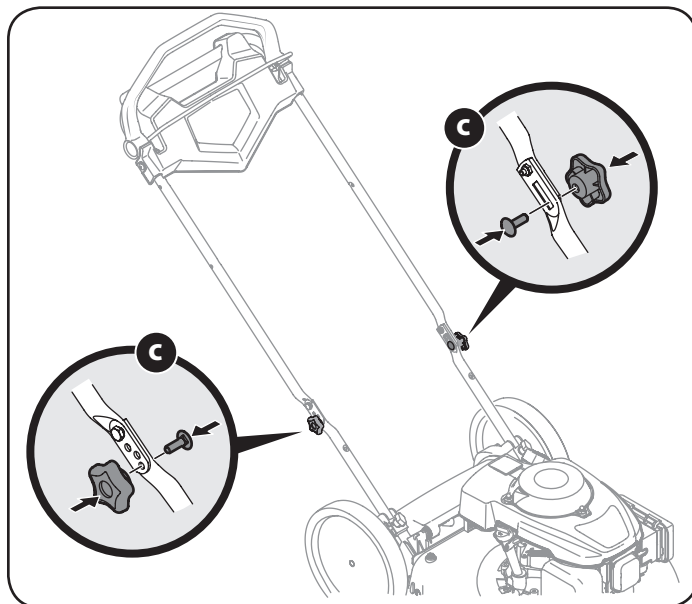

Figure 5
- Reattach wing nuts and carriage bolts removed earlier into lower holes of handle as shown in Figure 5.